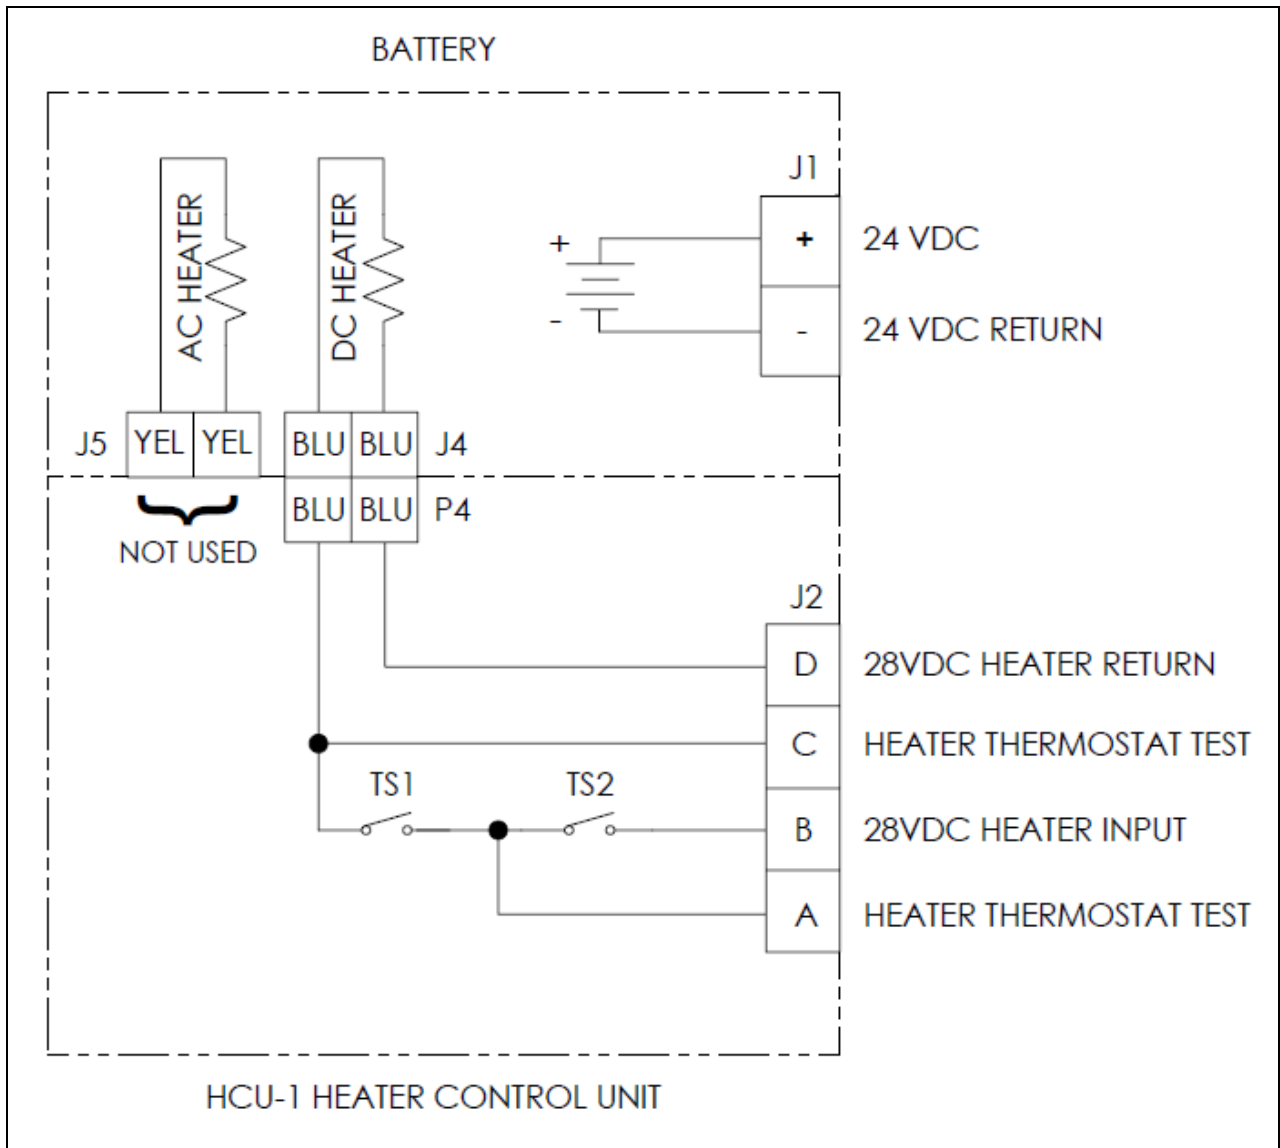

Figure 1. Schematic Diagram for HCU-1
- b. Refer to Figure 1 for electrical schematic of HCU and Table 1 for a list of test equipment.